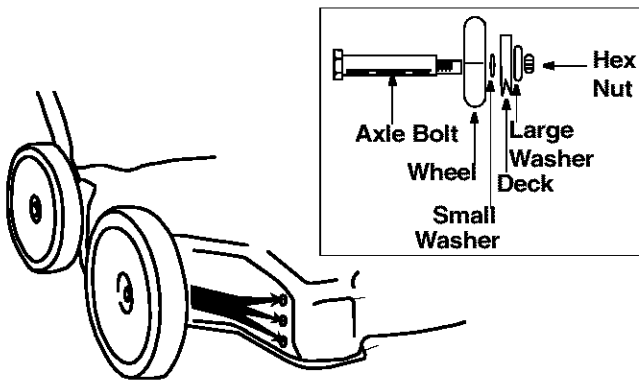

Figure 8
- Using hardware from group 1 of the hardware pack, place axle bolt through the wheel with the hub side of the wheel facing the deck. See Figure 8.
- Place the small bell washer on the axle bolt with the crown side towards the wheel. See Figure 8.